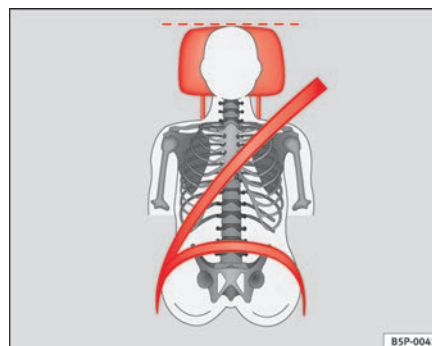

Fig. 12 Correct belt web and head restraint positions, viewed from front
- The shoulder belt must be positioned around the middle of the shoulder. The seat belt must lie flat and snugly on the torso ⇒ page 22, fig. 12.